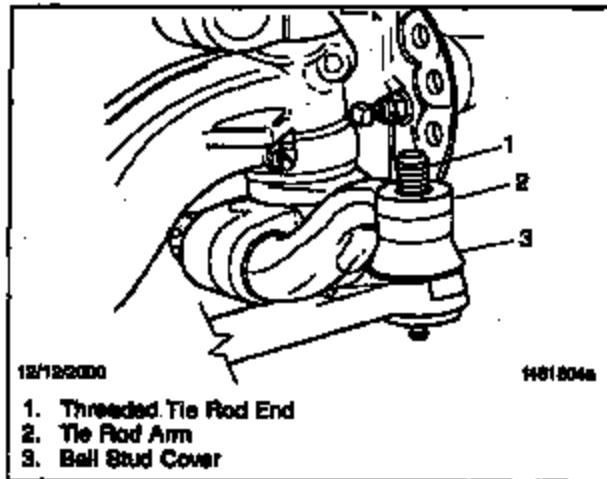

Fig. 7. Tie Rod Arm
- Push the threaded tie rod end through the tie rod arm hole. See Fig. 7.